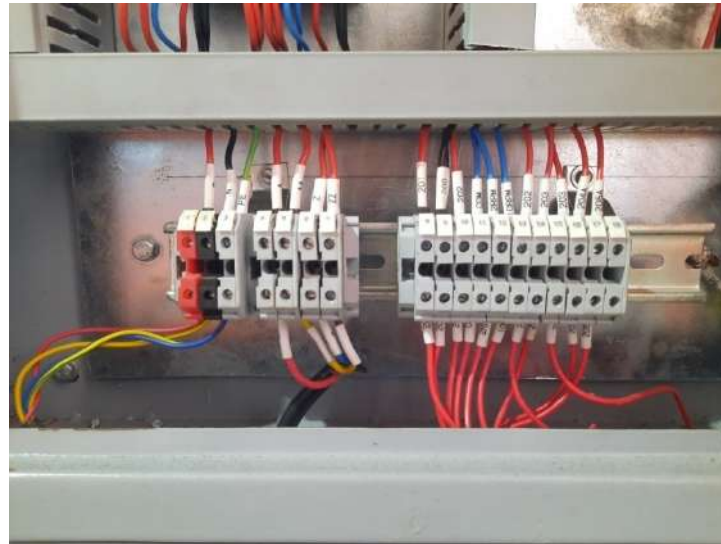

Figure 3-4 Electrical Connection - AC main line input at Control Panel
3. Connect the input supply as depicted in Fig 3-4.
- Establish the electrical connection as per Fig 3-4.